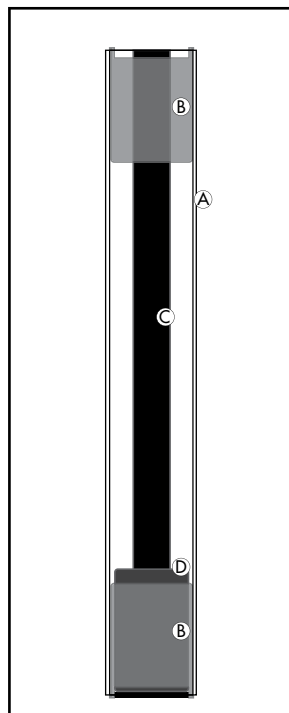

Figure 4
- 6.) Slide 5"x5" vinyl post jacket (A) (including top and bottom plastic inserts (B)) over top of steel post (C) and the bottom plastic steel post spacer (D) (*Figure 4*).